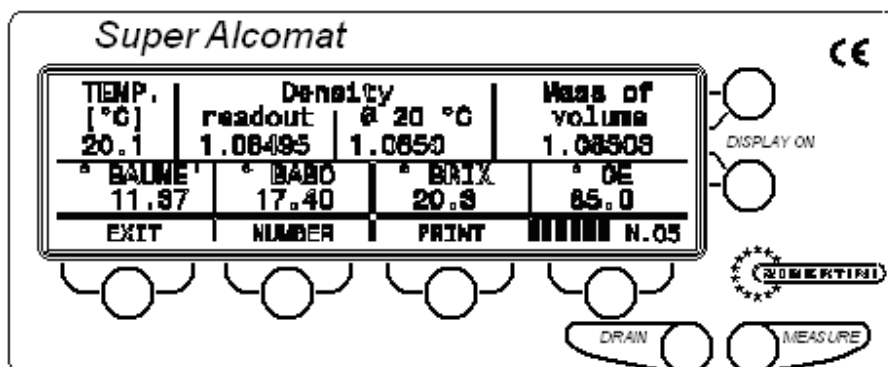

Fig. 15
- select MUSTS EVALUATION in the MAIN MENU screen, by pressing [3] (Figure 4). Wait for the "zero" of the balance and press [MEASURE]. The floater is automatically submerged in the liquid and the measurement begins. The display shows temperature, specific gravity read, specific gravity correct at 20°C (with four decimal numeral) and density at 20°C of the must sample under consideration (the sample is valid for $d_{20/20}$ between 1.04 and 1.16, Figure 15);